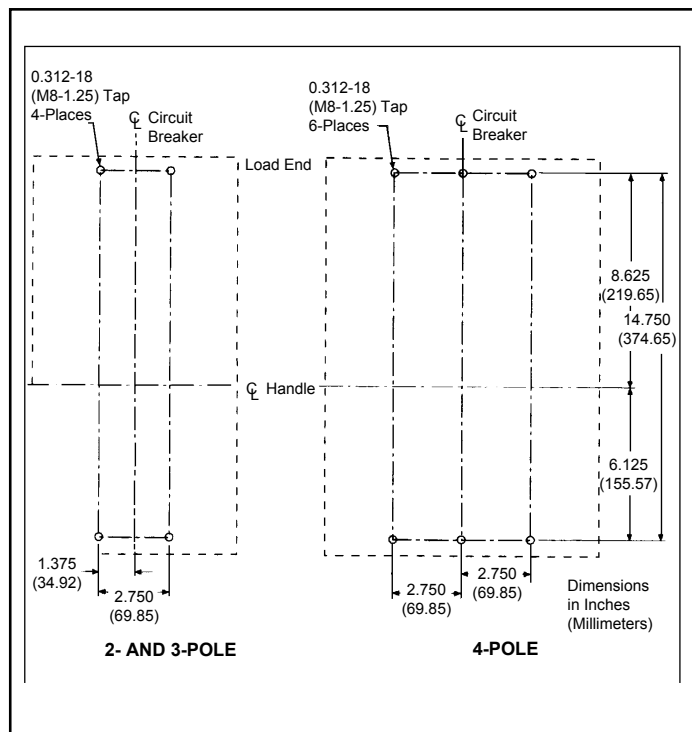
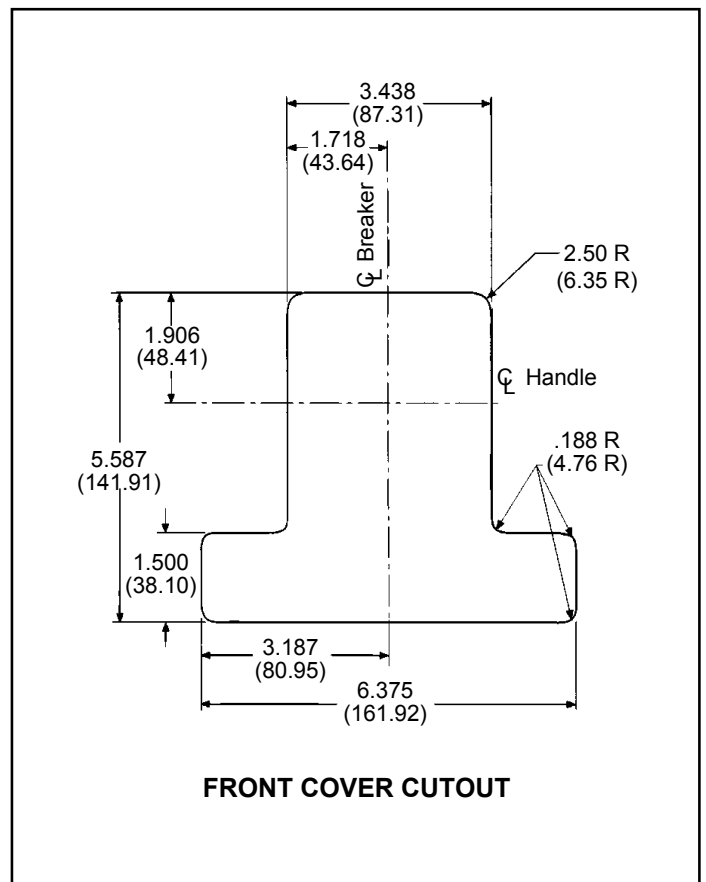
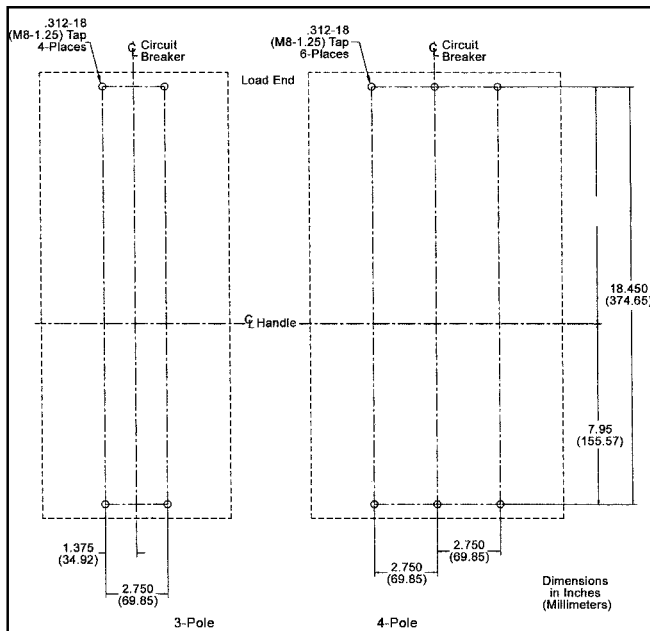

Figure 2-5. Breaker Mounting Bolt Drilling Plan - 800A, 1200A, 1250A Circuit Breaker and 1600A front connected Circuit Breakers.
Figure 2-6. Circuit Breaker Escutcheon Dimensions.
Figure 2-7. Breaker Mounting Bolt Drilling Plan - 1600 A Rear Connect Circuit Breaker.
- For individual surface mounting, drill mounting panel using the drilling plan shown in Figure 2-5. For dead front cover applications, cut out cover to correct escutcheon dimensions, see Figure 2-6.
- a. For individual surface mounting, drill the mounting panel using the drilling plan shown in Figure 2-7. For dead front cover applications, cut out cover to correct escutcheon dimensions, see figure 2-6.